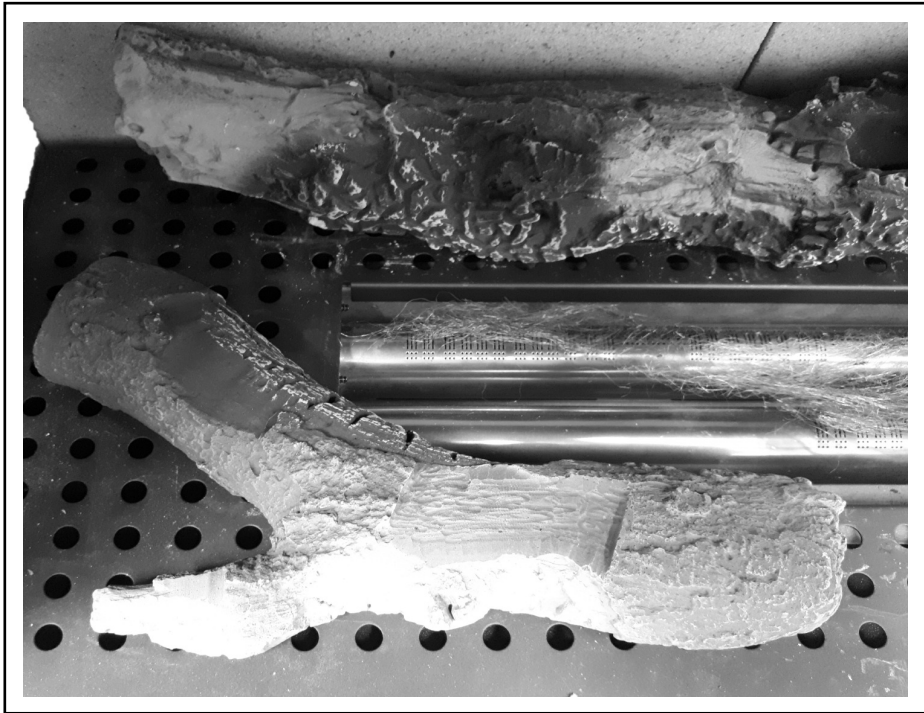

Fig. 5
5. Place Log '5' in position as shown in fig.5. Log 5 has a flat side to rest on the metal tray. The log does position over the front burner front LHS blank end, but only where there are no burner port holes below the log.